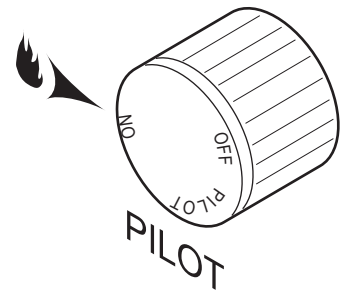

Figure 37- On Position
Depress and turn the knob counterclockwise  to the “ON” position. *Figure 37*. It will take less than four (4) seconds for the burner to ignite.